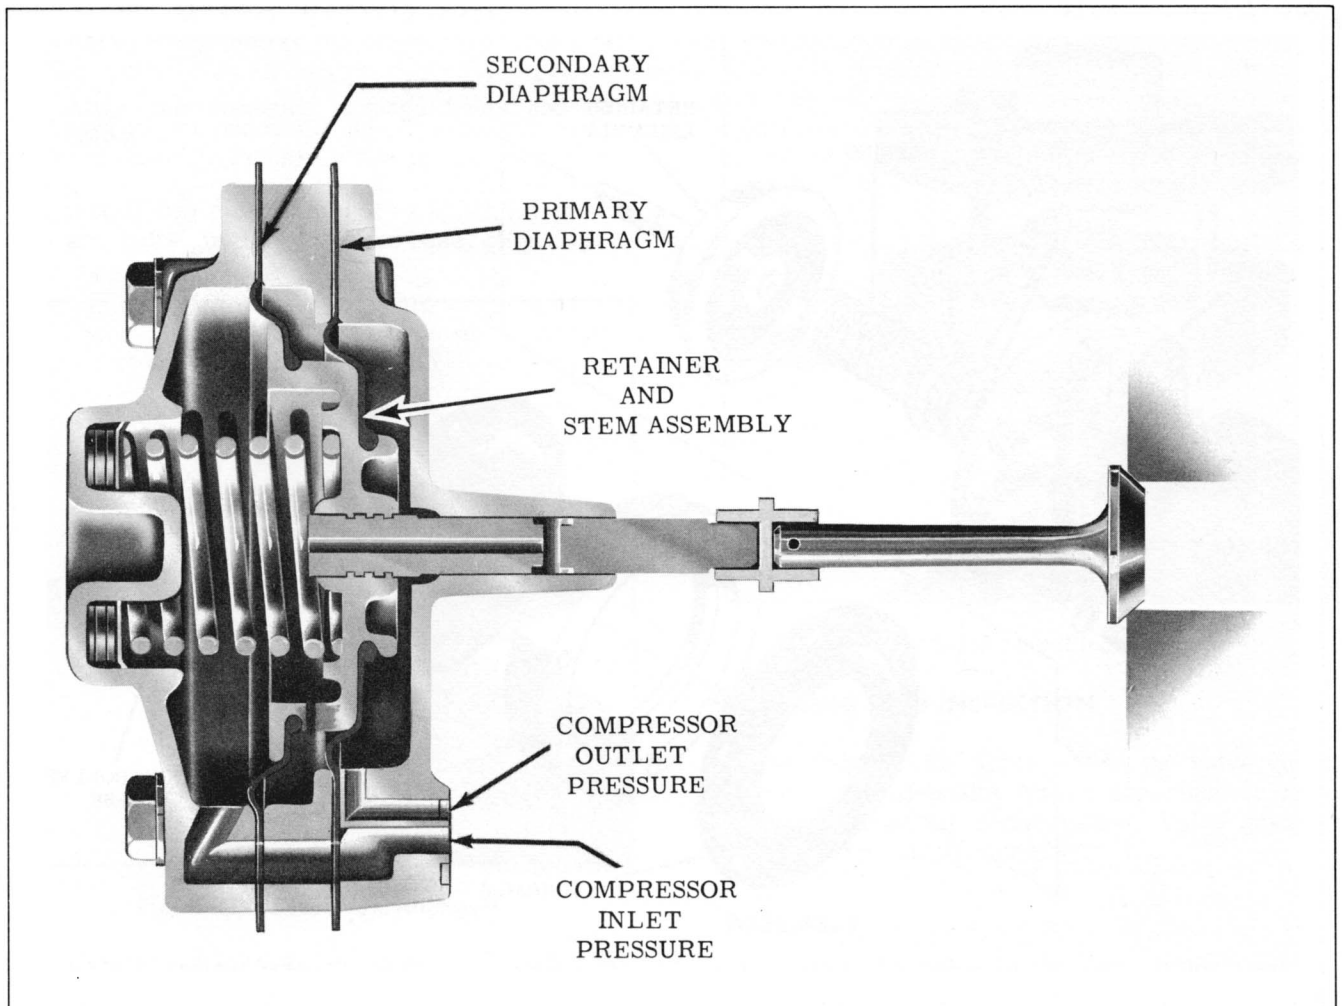

Fig. 8-110 Controller Assembly
OPERATION (Fig. 8-110)
1. Install diaphragms with raised ring toward retainer. (Fig. 8-110)